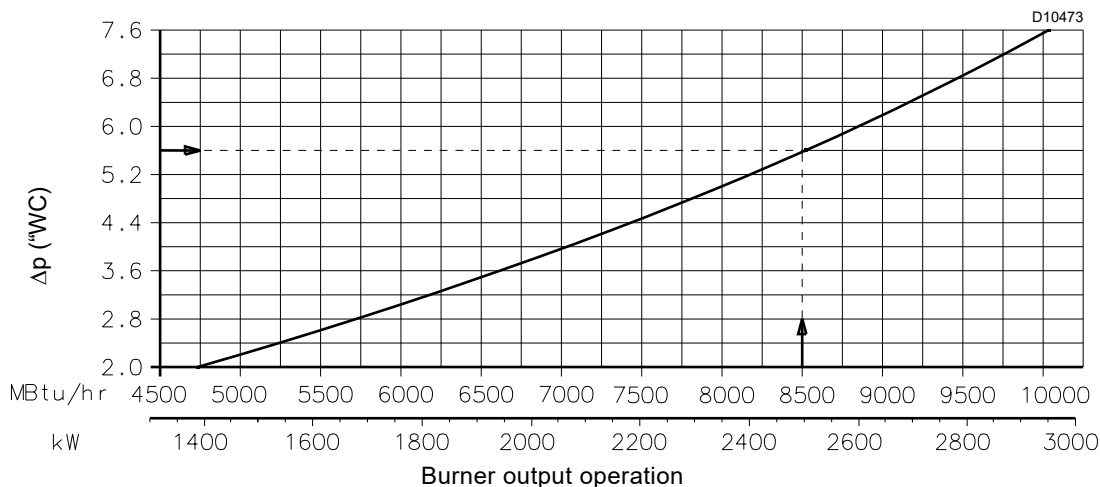
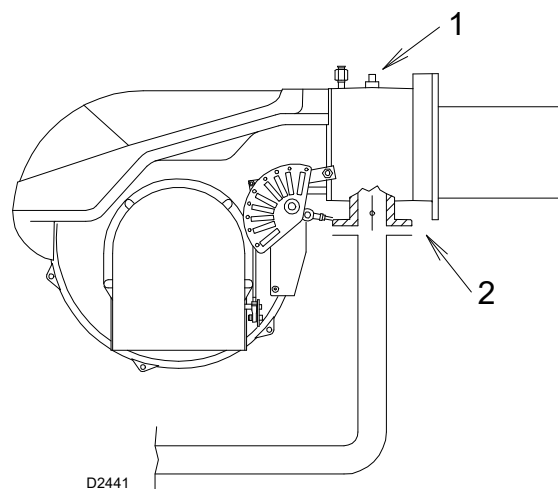

Fig. 21
Fig. 22
The diagram (Fig. 21) show minimum load losses at combustion head depending on the maximum burner output operation with natural gas (G 20).
Gas pressure is measured at the test point 1)(Fig. 22), with:
- subtract the combustion chamber pressure from the gas pressure measured at test point 1)(Fig. 22);
- find, in the diagram (Fig. 21) the pressure value closest to the result you want;
- Gas pressure at test point 1)(Fig. 22) = 6.8 "wc
To know the required gas pressure at test point 1)(Fig. 22), set the maximum output required from the burner operation, then:
- read, on the diagram (Fig. 21), the pressure test point 1)(Fig. 22);
pressure required at pressure test point 1)(Fig. 22).
Δp "WC gas butterfly 2)(Fig. 22)